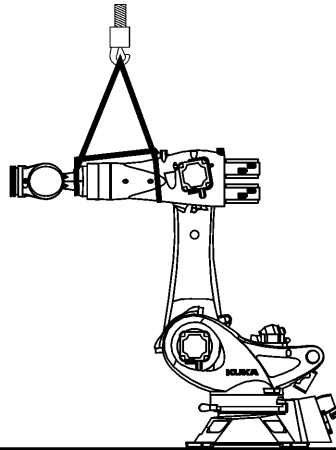

Fig. 11-6: Securing the arm
1. Secure the arm using a rope sling (>>> Fig. 11-6).